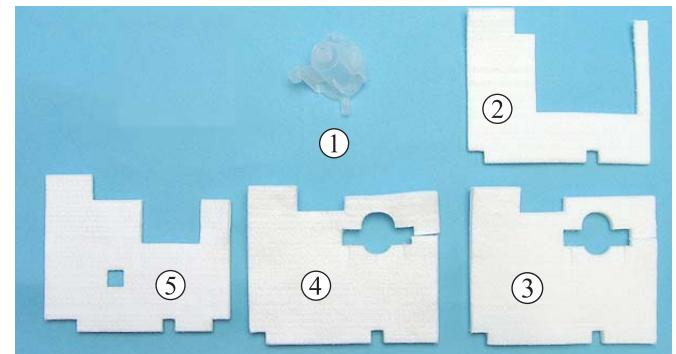

Figure 4-91. Installing Waste Ink Pads (1)
- When installing ① in the section **(B)** (refer to Figure 4-91), be sure to match the positioning tabs and press ① until it clicks to secure it in the right position.